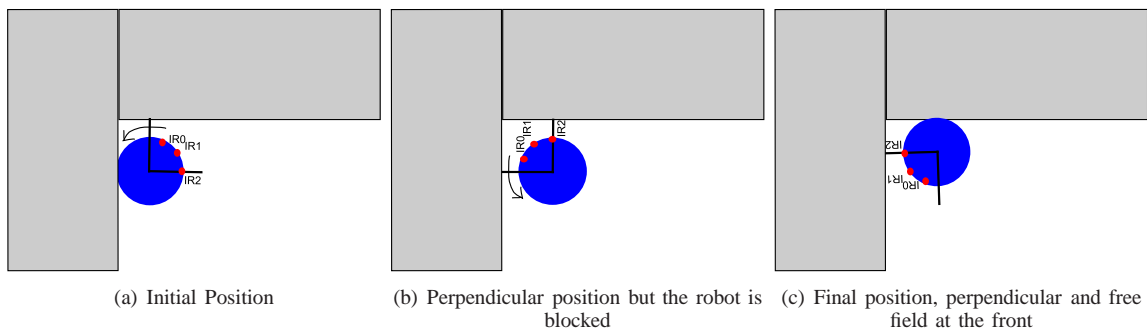

Figure 6. Representation of the perpendicular criterion
2) *Free front field criterion:* For some complex case as shown on the figure 6, the perpendicular criterion is not sufficient.
In the previous section, we explained how the robot can set up to be perpendicular to the obstacle. However, as shown on the figure 6(b), the robot can meet another obstacle in the same time than to be perpendicular. In order to fix this problem, the sensors IR0 and IR1 will give the information concerning the field at the front of the robot. Moreover to be perpendicular, the robot will turn until the moment than the sensor IR0 indicate than the field at the front of the robot is free and the sensor IR1 will be enough far of the edge as shown on the figure 6(c). When the robot is perpendicular and have free field at the front, the state 2 can be activated.